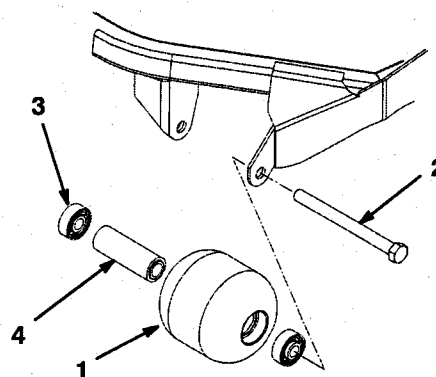

Figure 16
1. Remove roller mounting bolt (Fig. 16).
4. Inspect roller housing, bearings, and bearing spacer for damage (Fig. 16). Replace damaged components and re-assemble.
1. Press first bearing into roller housing (Fig. 16). Press on outer race only or equally on inner and outer race.
2. Insert spacer (Fig. 16).
3. Press second bearing into roller housing (Fig. 16) pressing equally on inner and outer race until the inner race comes in contact with spacer.